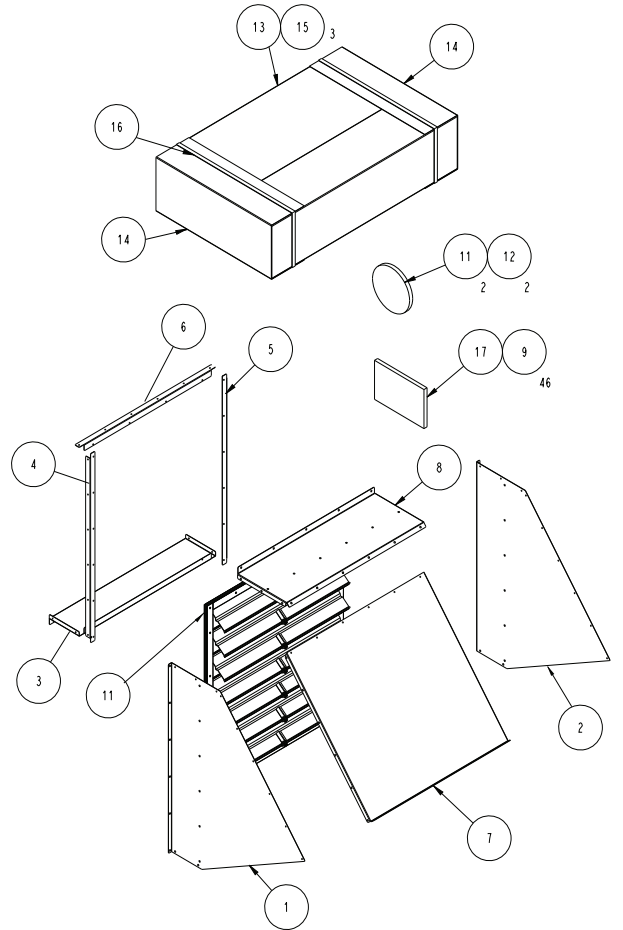

Fig. 27 — Exhaust Hood Assembly and Parts Detail
2. Assemble hood. See Fig. 27.